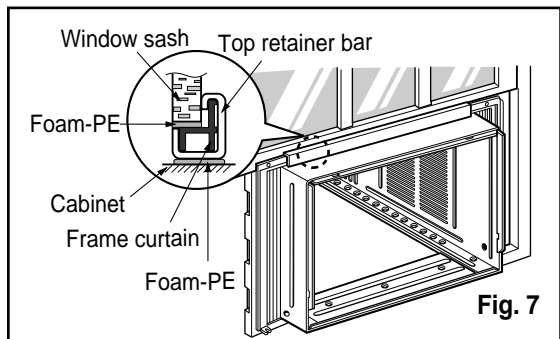

Fig. 7
4. Pull the bottom window sash down behind the Top retainer bar until they meet. (See Fig. 7)